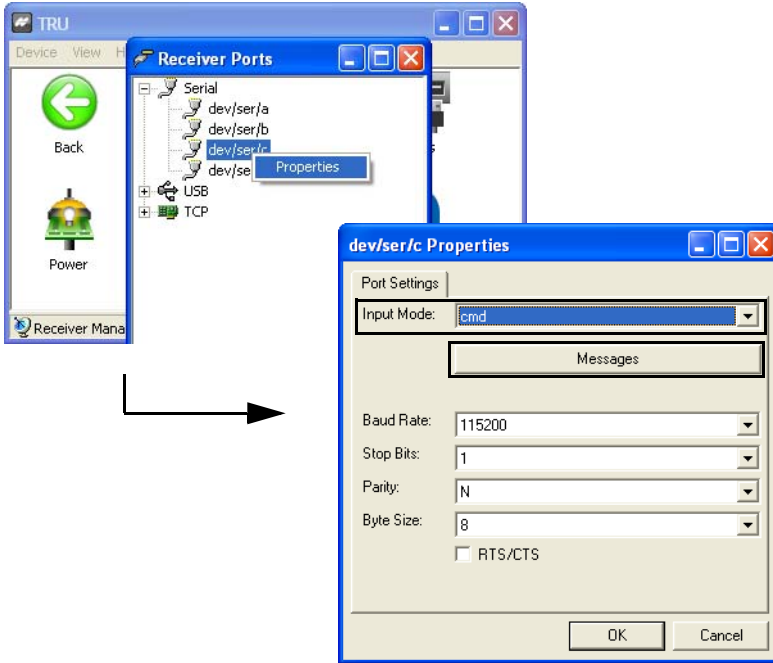

Figure 3-23. RTK Input Format
- To choose the RTK input format for the Base receiver, click **dev/ser/c** and click **Properties** from the *Receiver Ports* screen. Then select **cmd** as the *Input Mode* in the *dev/ser/c Properties* screen (Figure 3-23) and click **Messages**.